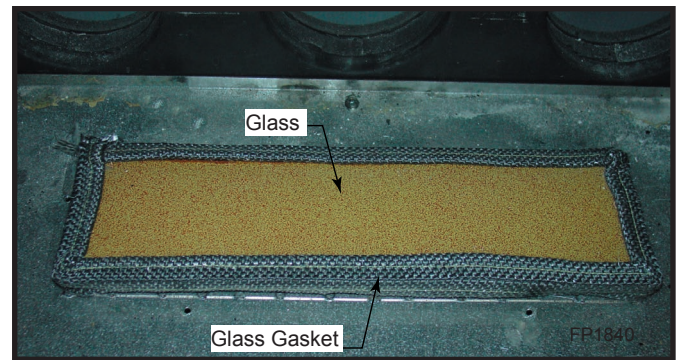

Fig. 57 Remove glass gasket and glass.
8. Remove the glass, noting the orientation of the glass gasket on the glass. (Fig. 57)